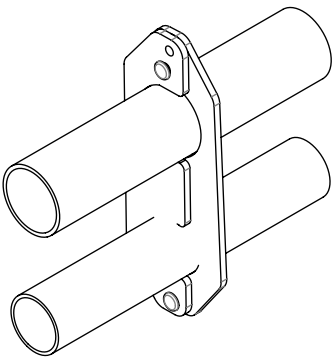

Figure 3: Top closed
- 2. Fit other bracket half over pipes and snap in second rivet as shown in figure 3 to the right. Be sure to place rivet in correct hole, see below.